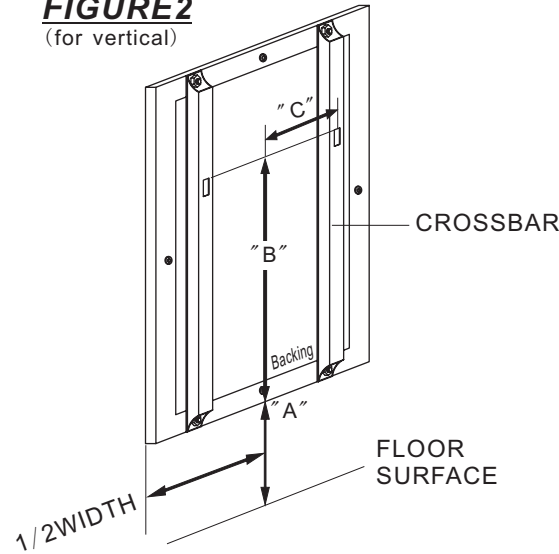

FIGURE 2
- Determine the hanging method [Vertical or Horizontal] (Refer to FIGURE 2 or FIGURE 4) Lift and position where MIRROR will reside on wall surface and with a tape measure, mark distance from floor to the bottom edge of frame with a pencil. Mark should be located at a point representing 1/2 of mirror width. (Mark "A") (**Please note Quoizel recommends 2 people for this step**)
- Place the MIRROR on flat surface with back facing you. Measure the distance from the bottom edge of the MIRROR FRAME to the top edge of the hanging holes on the CROSSBARS. This represents distance "B" FIGURE 2 (or FIGURE 4). With tape measure, add this distance to MARK "A" on wall surface and mark with pencil. Measure the distance between the center of the hanging holes and add half of this distance from MARK "B" on each side and mark with pencil. (Distance "C" FIGURE 2 or FIGURE 4). Measure 3" up from MARK "C" and mark. These marks are locators for the (2) MIRROR HANGERS. Check for marks straightness with level.